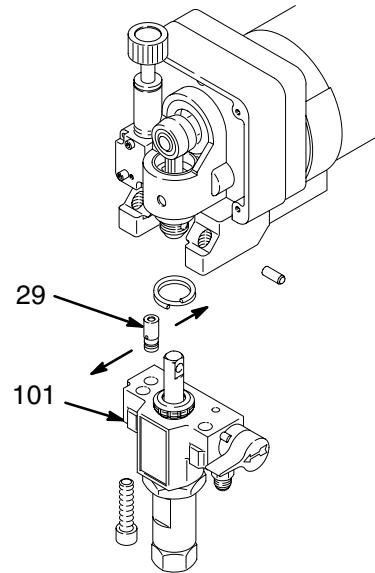

Fig. 27
- Align the holes in the transducer as shown by the arrows in Fig. 27.
**NOTE:** See Fig. 27 for this procedure.
- Use a pull-twist motion to remove the transducer (29) from the pump manifold (101).